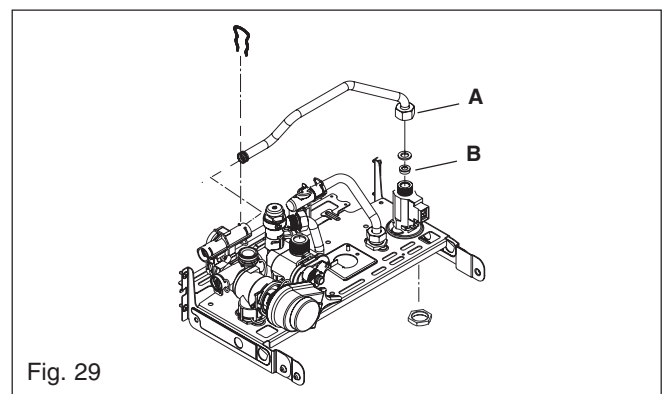

Fig. 29
6.19 FLOW RESTRICTOR fig. 29
6.20 DHW FLOW SWITCH fig. 29